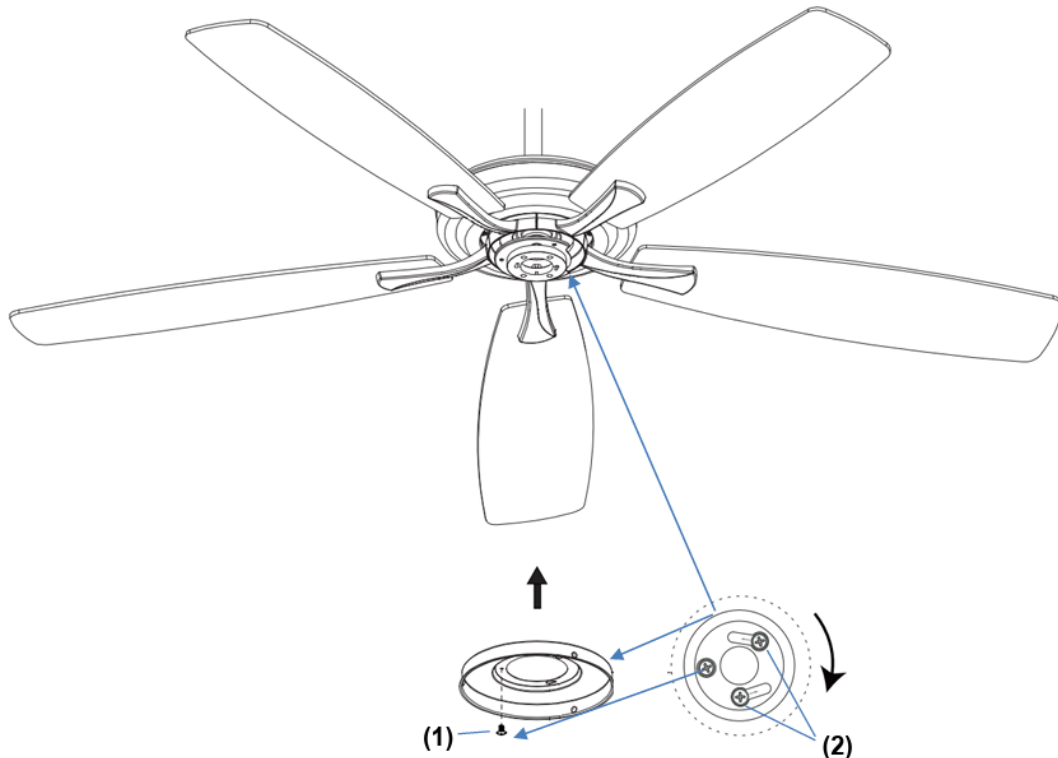
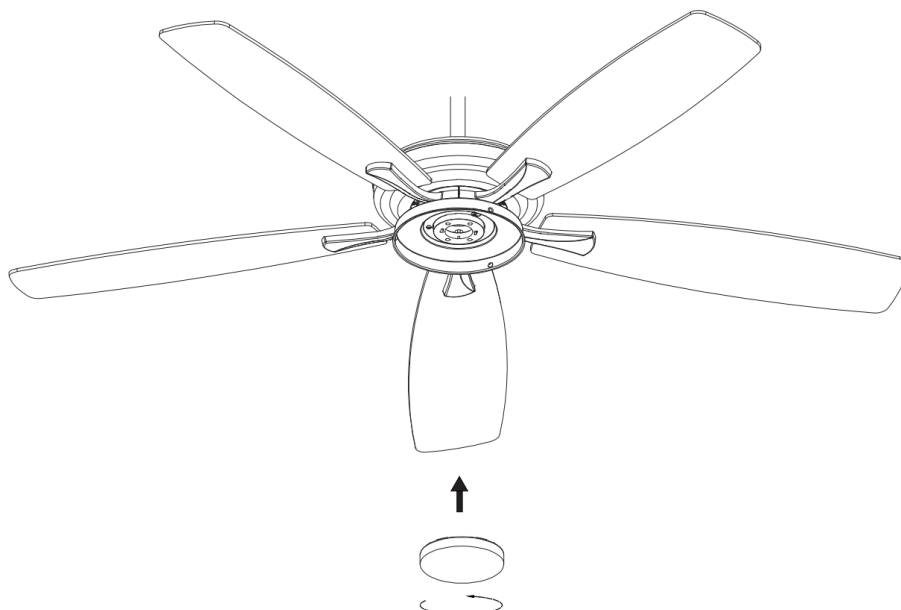
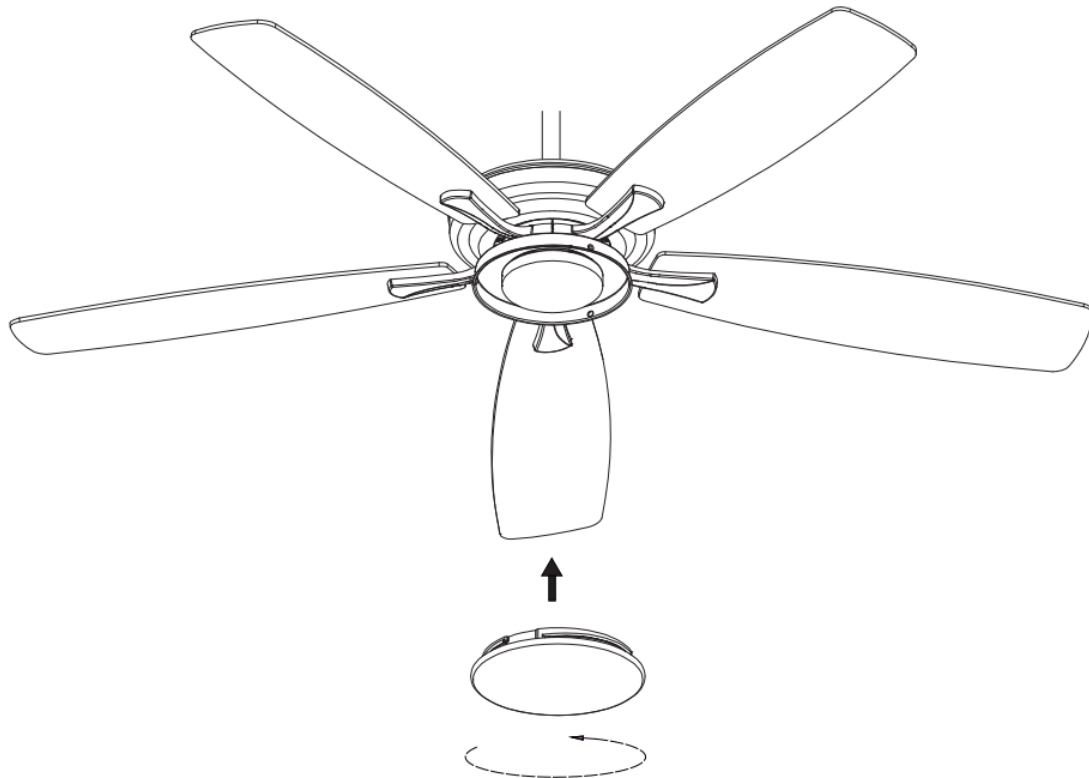

Fig. 8
Fig.9
Fig. 10
INSTALLATION OF LIGHT KIT (Optional and sold separately) (Fig.8 & Fig.9 & Fig.10)
2. Loosen the screw (1) from the fan bracket. (Fig. 8)
3. Align the two slot screws with the keyhole slots (2) of the light kit plate. (Fig. 8)
4. Turn the light kit plate counterclockwise until the slot screws are firmly at the end of the slots (2).
5. Secure screw (1) to the light kit plate. Tighten all three screws. Do not over-tighten.
6. Install the GX53 lamp on the fan assembly then secure it by turning clockwise. (Fig. 9)
7. Install the glass shade on the light kit plate then secure it by turning clockwise. (Fig. 10)